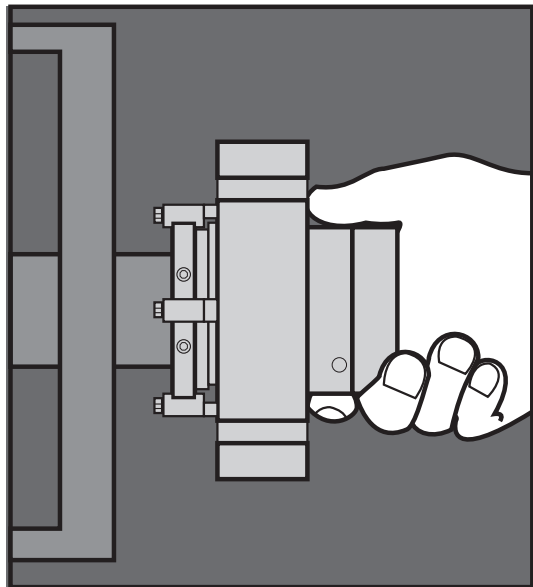

Figure 7
2.3 **Install the complete CPM PP cartridge assembly** onto the shaft or sleeve with the setting devices (103) near the bearing housing. See Figure 7.